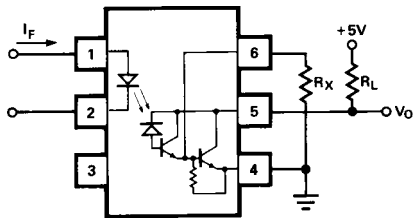

Figure 11. External Base Resistor,  $R_X$ .
- Use of a resistor between pin 4 and 6 will decrease gain and delay time. (See Figures 11, 12, and 13.)